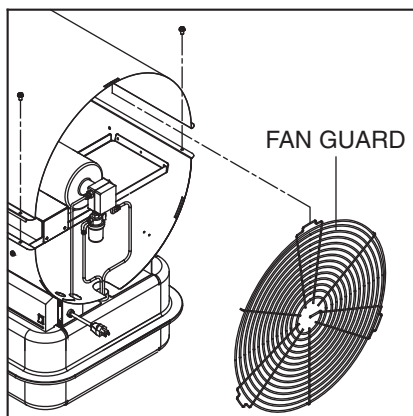

Figure 11. Remove fan guard
- Remove fan guard (See Figure 11)